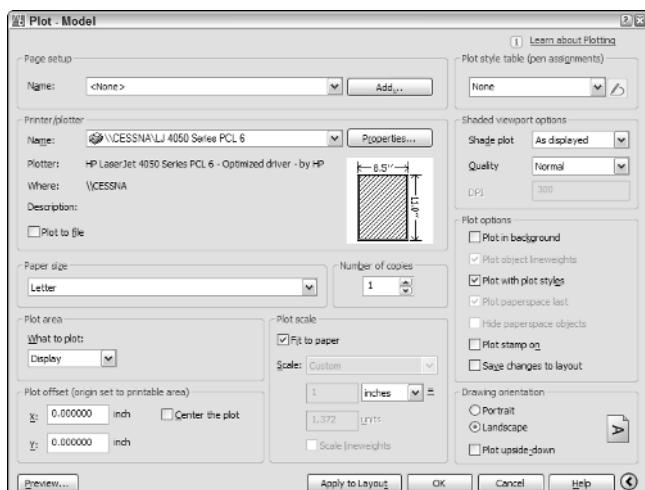

Figure 13-3:
The Plot dialog box reveals additional settings, as shown in Figure 13-3.
12. In the Plot Options area, make sure that the Plot With Plot Styles check box is selected and that the Save Changes To Layout check box is deselected, as shown in Figure 13-3.